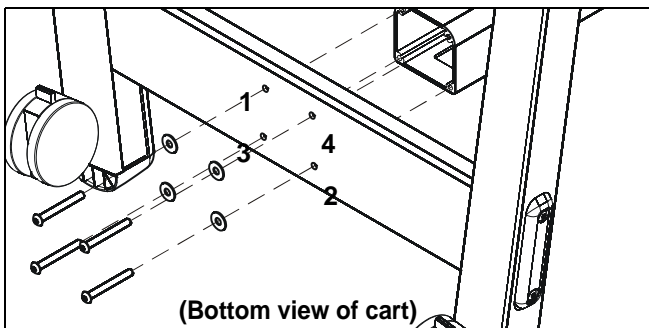

Figure 2
**CAUTION:** Attachment holes may be damaged if a power drill is used to insert button head cap screws. Screws should first be inserted and turned **BY HAND** with the hex key or with a handheld screwdriver **BEFORE** using the hex head drill bit (H) and power drill to complete the attachment.
**NOTE:** Insert and turn screws in order shown (1, 2, 3, 4) in Figure 2.
2. Attach center post (E) to leg assembly using four 5/16-18 x 2-3/4" button head cap screws (L) and four 5/16" washers (N). (See Figures 2 and 3)